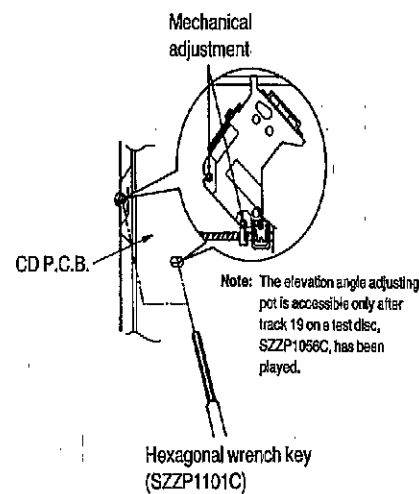

Fig. 7
- Alternately adjust the two mechanical adjusting screws with the 2.0 mm allen wrench (SZZP1101C) until the RF signal amplitude on the oscilloscope is maximize. (Shown in Fig. 7)